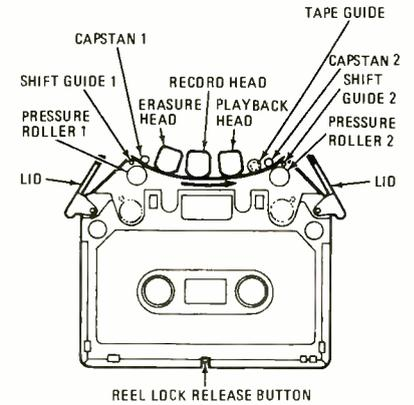

FIG. 5—TRANSPORT MECHANISM opens protective lids and pulls the tape out of the Elcaset housing.
**To find the R7 and C2 values:** If the alarm circuit is to be provided with the tachometer facility, first decide what full-scale RPM reading is required on the meter: If the circuit is not to have a tachometer, decide or guess the highest RPM figure that is likely to be available from your own particular vehicle. Now look at the graph of Fig. 5 and find the frequency that corresponds to that value. Thus, a frequency of 267 Hz corresponds to 8,000 RPM on a 4-cylinder 4-cycle engine. Given this frequency, f, calculate the value of R7 (in ohms) on the basis of:
FIG. 5—RELATIONSHIP between frequency, RPM and the value of R7 needed to provide full-scale readings for different types of engines. The value of C2 is .01  $\mu$ F.
Elcaset system is that it employs an external tape guide method that pulls the tape out of the housing and transports it across the tape heads, as shown in Fig. 5. In the case of ordinary cassettes, the record or playback head as well as the erase head push against the tape within the cassette shell so that precision of tape speed depends upon the precision of the cassette shell. In addition, the size, location and number of heads used in a cassette recorder are restricted by the limitations of the cassette into which the heads must be positioned. Only recently were a few ingenious manufacturers able to develop "three headed" cassette decks that permit the same kind of tape monitoring that is possible with open-reel decks. Since the Elcaset system employs an external tape-guide method, stable tape operation is possible and independent of the precision of the Elcaset housing. Furthermore, units with multiple heads can be more easily designed since there is virtually no restriction in the number and physical location of the heads.
tape from spilling or popping out, a lid is attached to protect it. The lids are shown in their open position in Fig. 5 and in their closed positions in the photo of Fig. 2. In addition, to prevent tape slack from developing during transport of Elcaset, a reel lock makes contact with the tape reels themselves (see Fig. 5). Both the lids and reel locks are arranged to enable correct release action when the Elcaset is inserted into an Elcaset tape deck.